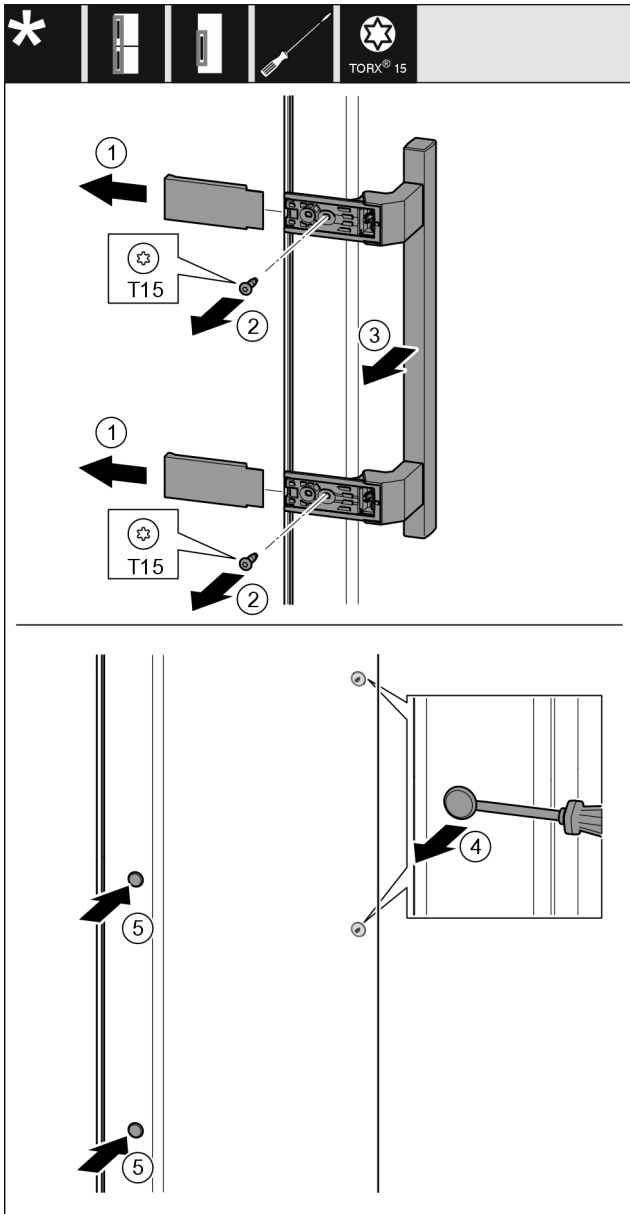

Fig. 24
- ▶ Remove the cover Fig. 24 (1).
- ▶ Unscrew screws Fig. 24 (2) with screwdriver.
- ▶ Remove the handle Fig. 24 (3).
- ▶ Use a slotted screwdriver to lift the side plug Fig. 24 (4) carefully and pull it out.
- ▶ Re-insert the plug Fig. 24 (5) on the other side.